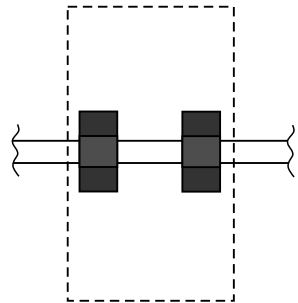

Fig 3.2E
4. Position the straps on the rail with the loop velcro tabs at the widest (for horizontal mounting, see Fig 3.2D) or tallest (for vertical mounting, see Fig 3.2E) points.